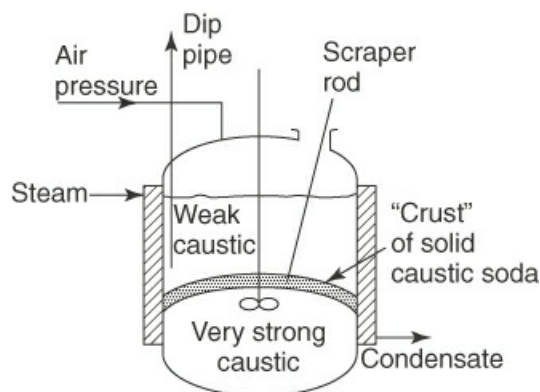

Figure SAT12.2TP2
2. A second example of an accident occurred in a tank as shown in Figure SAT12.2TP2. A problem occurred in discharging the NaOH (caustic) solution by air pressure because the end of the dip pipe was broken. The manhole cover was removed, and a scraper rod was lowered into the liquid to remove the broken part of the dip pipe. An immediate explosion occurred that shot NaOH solution 30 ft into the air, killing one man. What was the cause of the explosion?